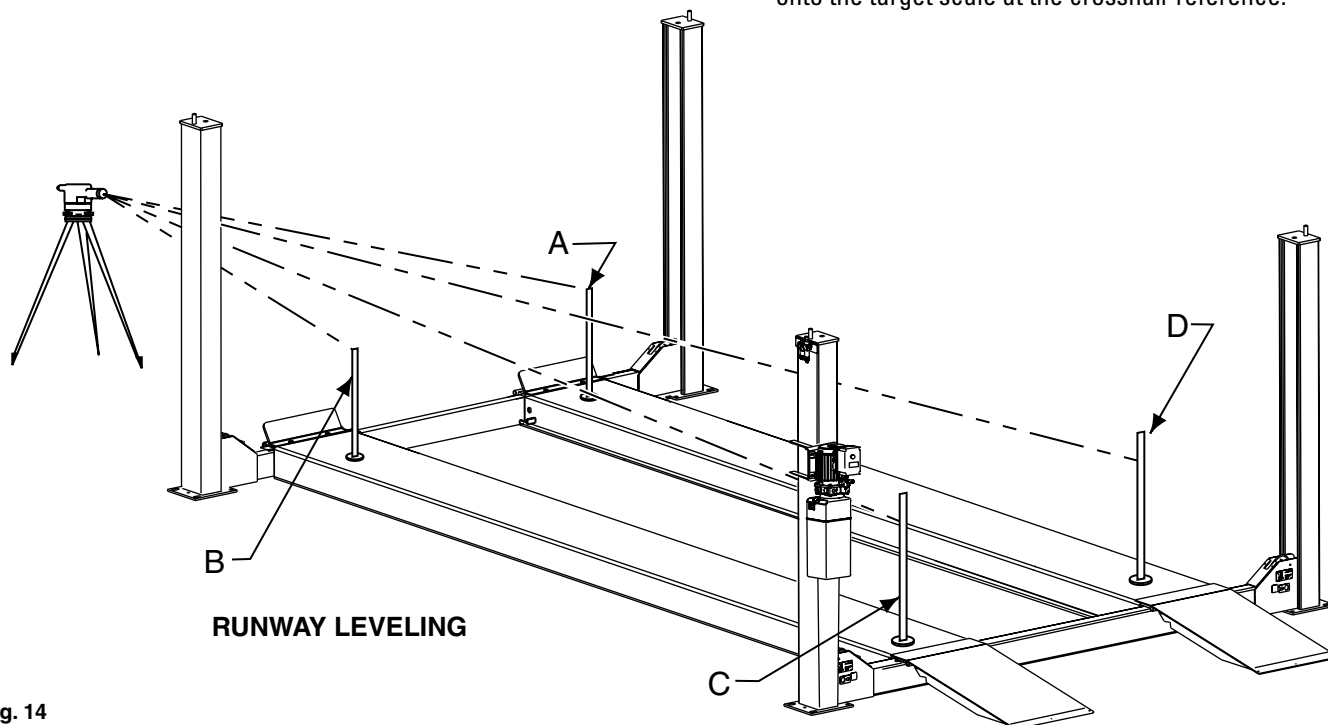

Fig. 14
- C. First place the Level target at the highest corner of the lift. Place it on the runway center line within 6" of yoke tube, whichever one is located over highest point. This will be referred to as target "A" position. Beginning with target "A" position, Fig. 14, sight the Level to the target and mark the number or the graduation on the inch scale of the target that aligns to the crosshairs of the Level, Fig. 15.
D. Next, move the target and place it on the runway at point "B", Fig. 14. Rotate the Level and focus on the target scale. Adjust the column at "B" using shims under base plate, Fig. 13, until the crosshairs of Level align to reference mark on the target scale. Repeat for points C and D.